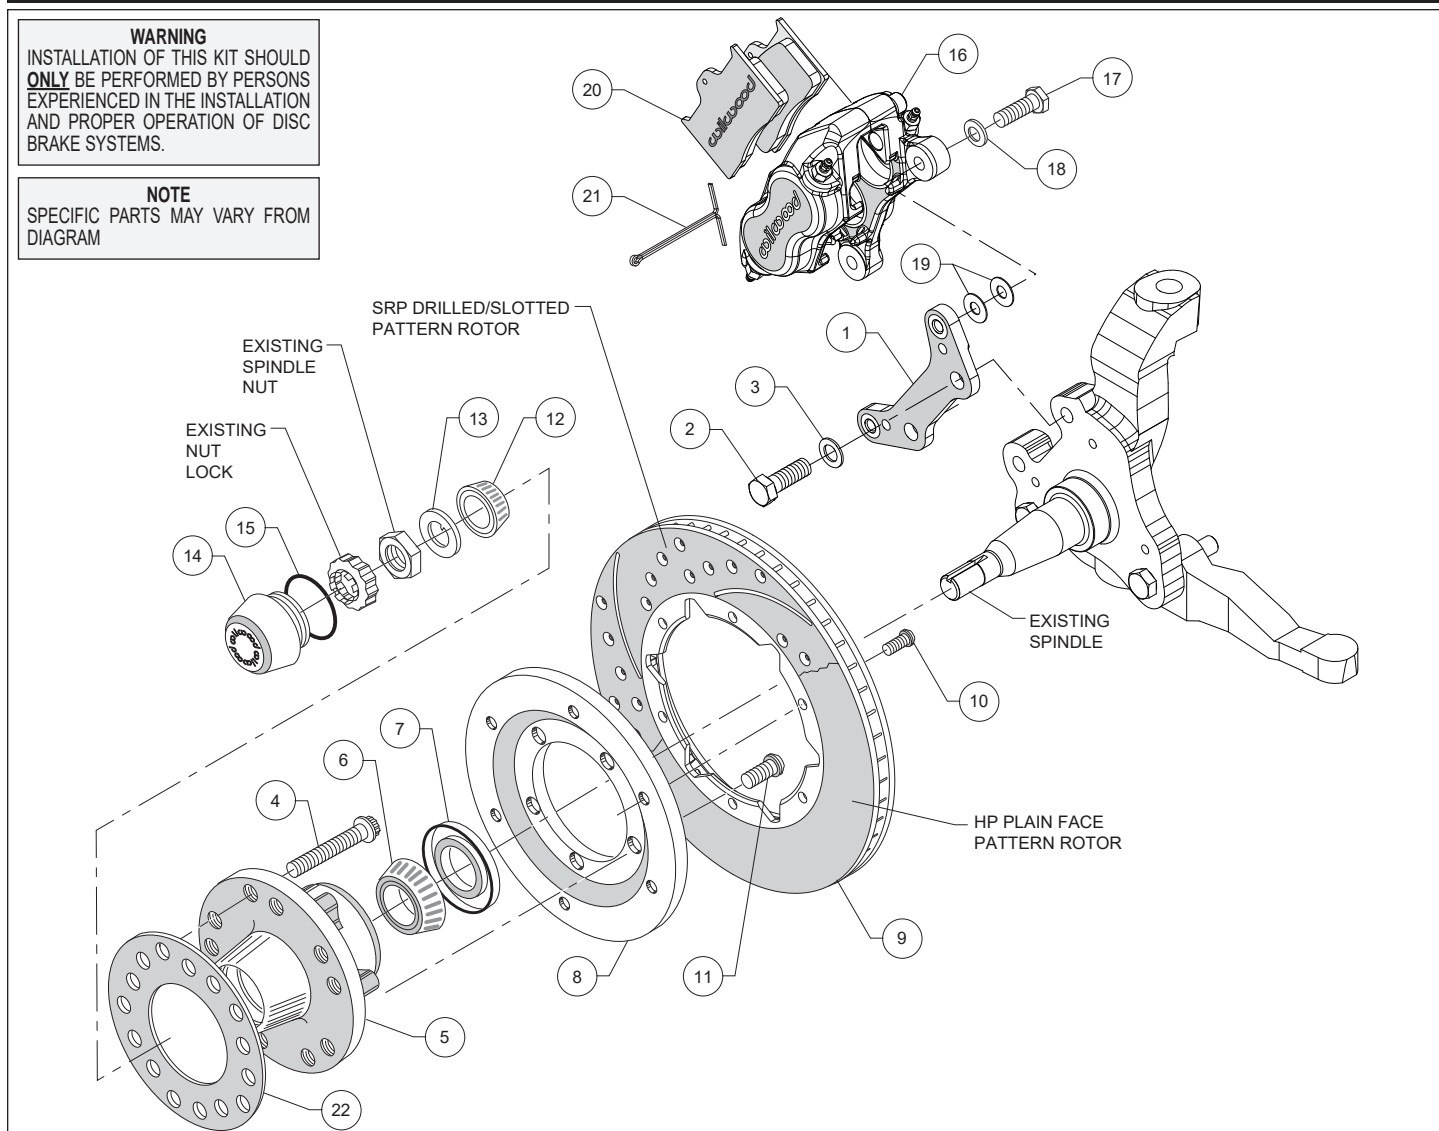
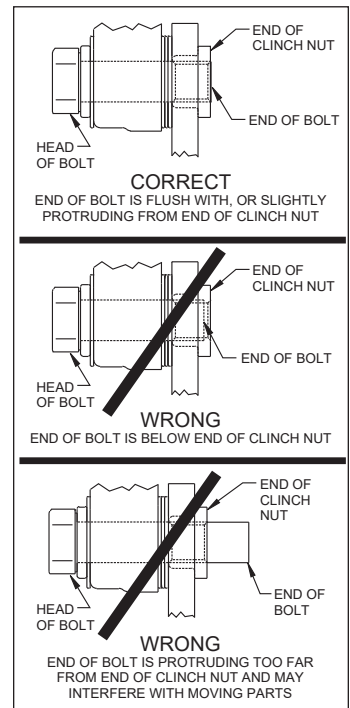

Figure 1. Typical Installation Configuration
Figure 3. Clinch Nut Engagement Diagram
Assembly Instructions (numbers in parenthesis refer to the parts list, on the preceding page and Figure 1): **CAUTION:** All mounting bolts must fully engage clinch nuts. Be sure to check that all bolts are either flush or protruding through flanged side of clinch nut after shimming, Figure 3.
- Align caliper mounting bracket (1) with the corresponding holes, to the face of the spindle. Attach using bolts (2), and washers (3), as shown in Figure 1 and Photo 1. Temporarily tighten the mounting bolts. Ensure that the flanged heads of the clinch nuts in the bracket are facing outboard, Photo 1. **NOTE:** The bracket must fit squarely against the mounting points on the spindle. Inspect for interference from casting irregularities, machining ridges, burrs, etc. Remove bolts one at a time, apply red *Loctite*® 271 to threads and torque to 77 ft-lbs.
- Orient the rotor (9) and the rotor adapter (8) as shown in Figure 1 and Photo 4. Attach the rotor to the adapter using bolts (10). Using an alternating sequence, apply red *Loctite*® 271 to the threads, and torque to 25 ft-lb.
- Mount the adapter/rotor assembly (8 and 9) to the hub (5) using bolts (11), as shown in Figure 1 and Photo 5. Using an alternating sequence, apply red *Loctite*® 271 to the threads, and torque to 45 ft-lb.
- NOTE:** Please reference the caution statement at the beginning of the assembly instructions. Mount the caliper (16) onto the caliper mounting bracket (1) using bolts (17) and washers (18), as shown in Figure 1. Initially place two .035" thick shims (19) on each bolt between the caliper and the bracket, Photo 8. Temporarily tighten the mounting bolts and view the rotor (9) through the top opening of the caliper. The rotor should be centered in the caliper, Photo 9. If not, adjust by adding or subtracting shims between the bracket and the caliper. Always use the same amount of shims on each of the two mounting bolts. **NOTE:** The end of each bolt must be flush with or slightly protruding from the head of the clinch nut, as shown in Figure 3. If necessary place spare shims between washer (18) and caliper mounting ear to achieve the proper clinch nut engagement. Once the caliper alignment and clinch nut engagement are correct, remove the bolts one at a time, apply red *Loctite*® 271 to bolt threads, and torque to 40 ft-lb.